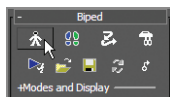

FIGURE 12.4
5. With the bipod still selected, in the **Command** panel, click the **Motion** tab () and in the **Bipod** rollout, enter **Figure** mode, as shown in Figure 12.4.